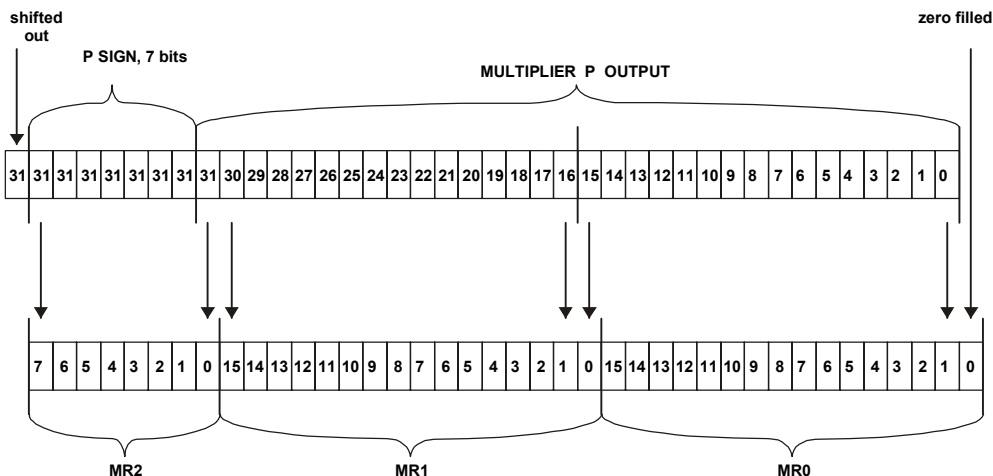

Figure 2-3. Fractional Multiplier Results Format
When the processor multiplies two 1.15 operands, the result is a 2.30 (2 sign bits and 30 fractional bits) number. In fractional mode, the multiplier automatically shifts the multiplier product (P) left one bit before transferring the result to the multiplier result register (MR). This shift causes the multiplier result to be in 1.31 format, which can be rounded to 1.15 format. This result format appears in Figure 2-3 on page 2-12.
In the fractional mode, the 32-bit Product output is format adjusted—sign-extended and shifted one bit to the left—before being added to MR. For example, bit 31 of the Product lines up with bit 32 of MR (which is bit 0 of MR2) and bit 0 of the Product lines up with bit 1 of MR (which is bit 1 of MR0). The LSB is zero-filled. The fractional multiplier result format appears in Figure 2-3 on page 2-12.